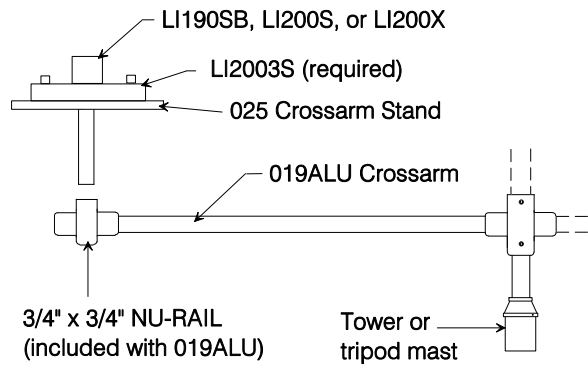

FIGURE 2-2. 025 Crossarm Stand and 019ALU Crossarm
- 5/32" Allen wrench for NU-RAIL (Figure 2-2)